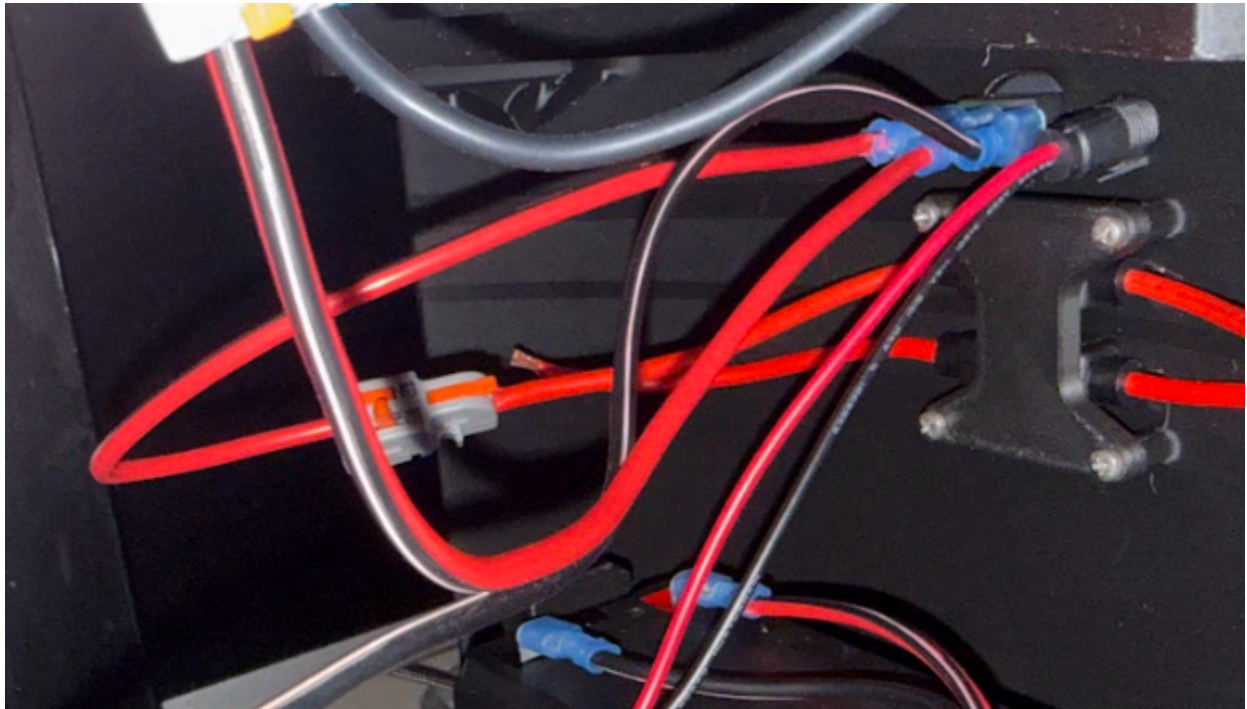
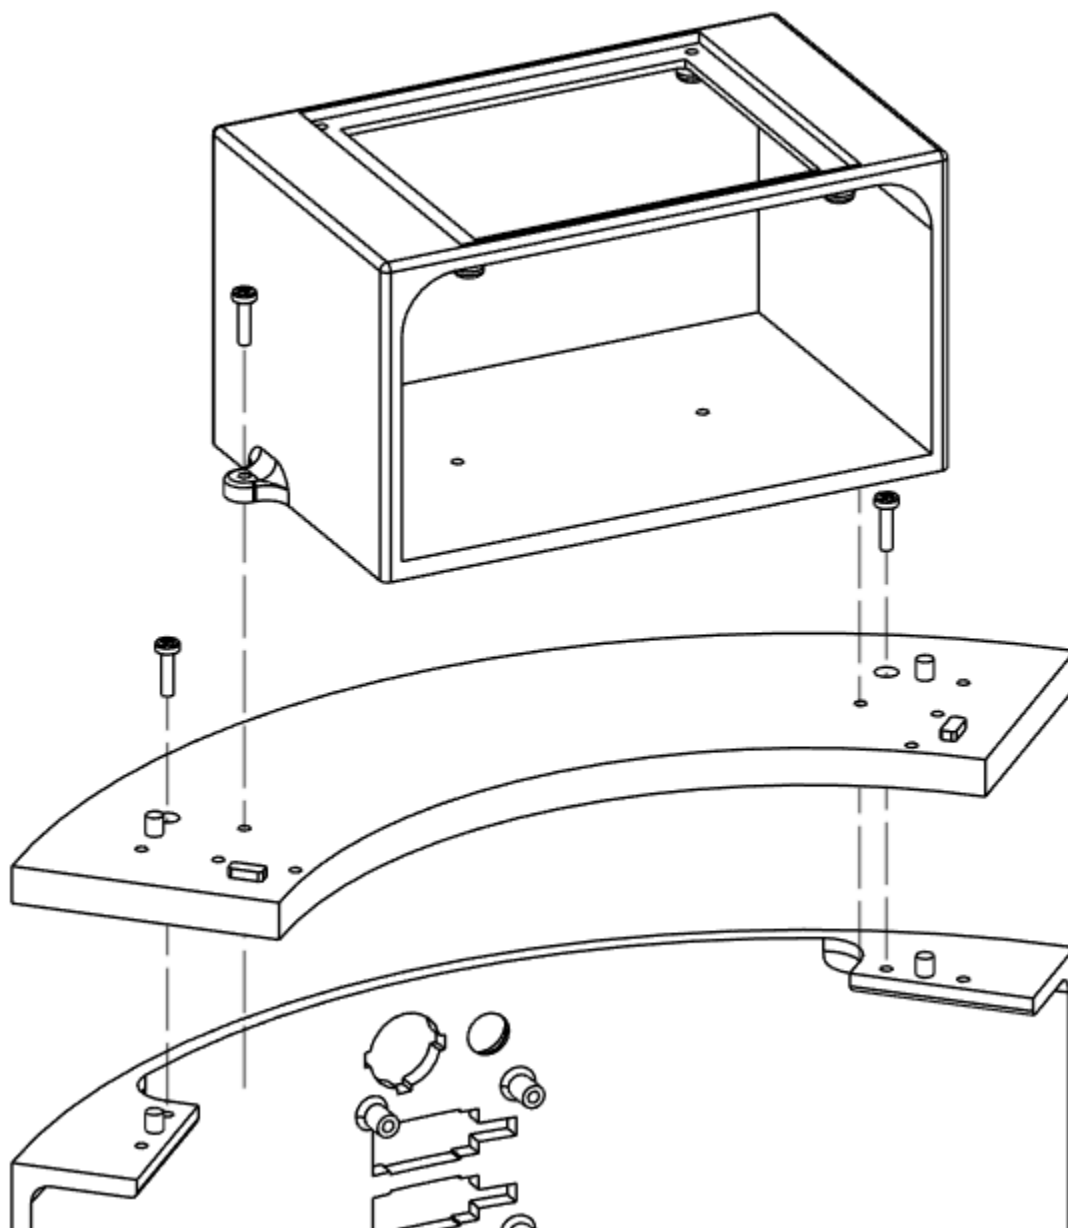
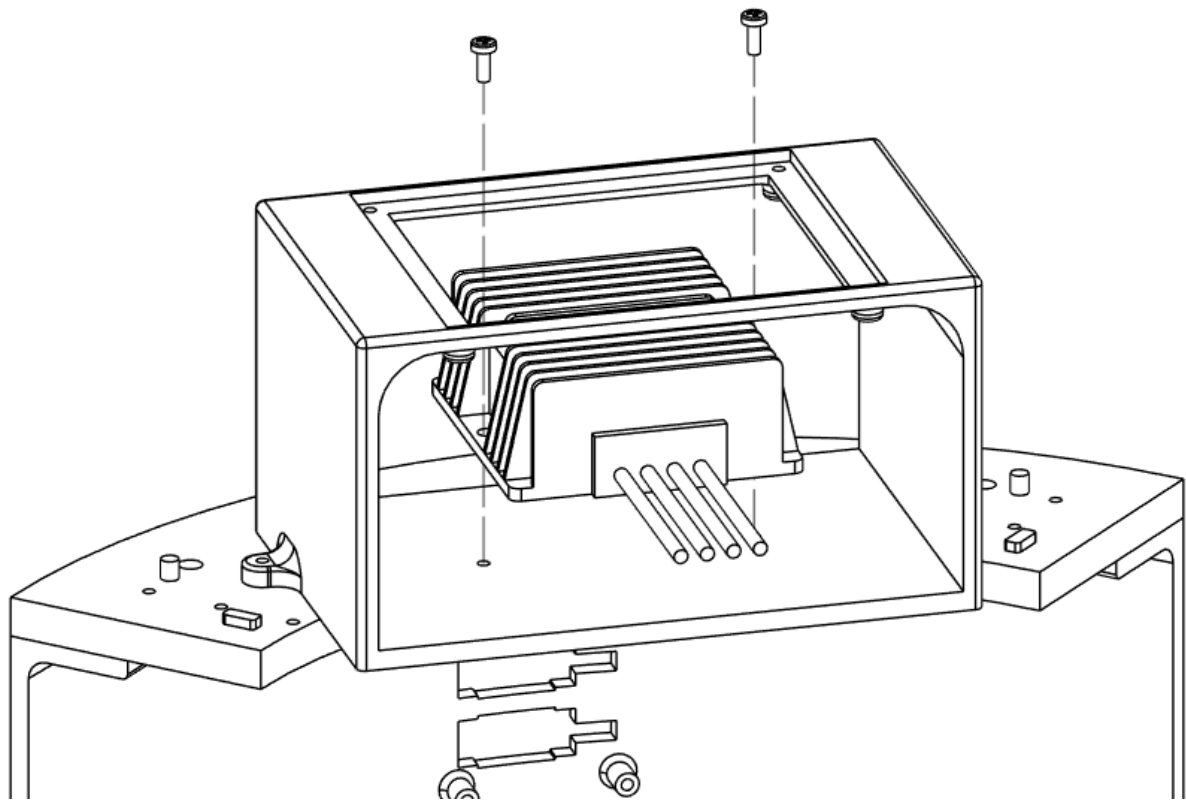

Figure 5.2 - Fuse Holder & Power Switch Assembly
Figure 5.3 - 2nd Level Base Plate & PCB Holder Assembly
Figure 5.4 - Buck Converter Assembly
- b. Install (2) fuse holders in Level 1 Rear Wall as shown in Figure 5.2
- c. Fasten Fuse Holder to Level 1 Rear Wall as shown in Figure 5.2
- i. (4) M3x8mm
- d. Install power switch in Level 1 Rear Wall as shown in Figure 5.2
- e. Install charging port in Level 1 Rear Wall as shown in Figure 5.2
- f. Attach main power fuse to power switch as shown in Figure 5.2
- i. (1) Spade connector
- a. Fasten Level 2 Base Plate to Level 1 Rear Wall as shown in Figure 5.3
- i. (2) M3x12mm
- b. Fasten PCB Holder to Level 2 Base Plate as shown in Figure 5.3
- c. Fasten Buck Converter to PCB Holder as shown in Figure 5.4
- i. (2) M3x8mm
- ii. Connect wires to Battery terminals as shown in Figure 5.2
- v. Connect Double Orange Lever Wire Connector to upper fuse holder as shown in Figure 5.2
Connector and left terminal on Power Switch as shown in Figure 5.2
vii. Crimp Spade Connector to red 18 AWG Wire (~100mm in length) and connect to middle terminal of Power Switch as shown in Figure 5.2. Connect other end of wire to Single Orange Lever Wire Connector.
viii. Connect Black Wire to right terminal on Power Switch as shown in Figure 5.2. Connect other end of wire to Blue Lever Wire Connector. Connect Male-Female Jumper Wire to Blue Lever Wire Connector and plug into PCB (Blue-1 Port) as shown in Figure 5.2